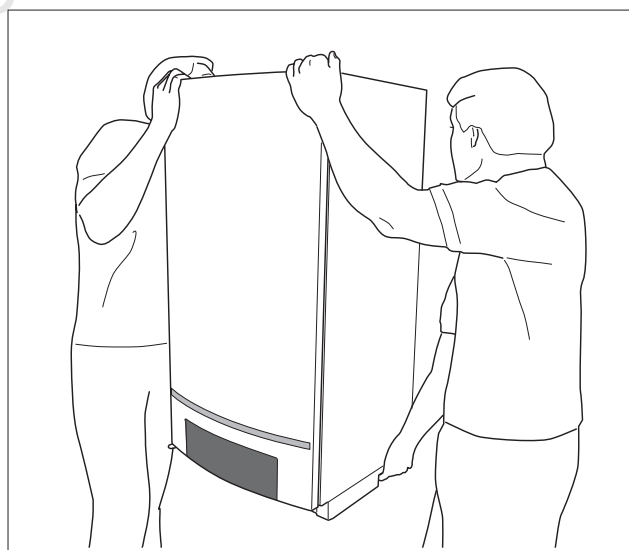

fig. 2 Lift and carry the boiler correctly
To lift and carry the boiler, place one hand at the bottom of the boiler and the other hand on its front (fig. 2).
- With two people, lift the boiler by holding it by its back and by the transport rail at its bottom and install it on the wall bracket (fig. 2, page 13).